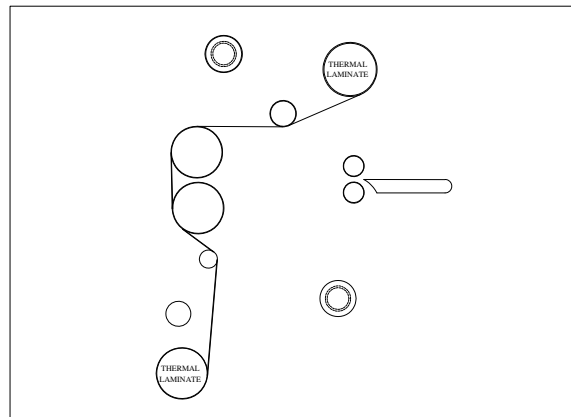

FIGURE 20
5. Pull the lower film behind the lower idler bar, Lower the table Pull Film up towards the film draped over the top heat roller and adhere the Lower Film to the upper Film (Fig. 20).